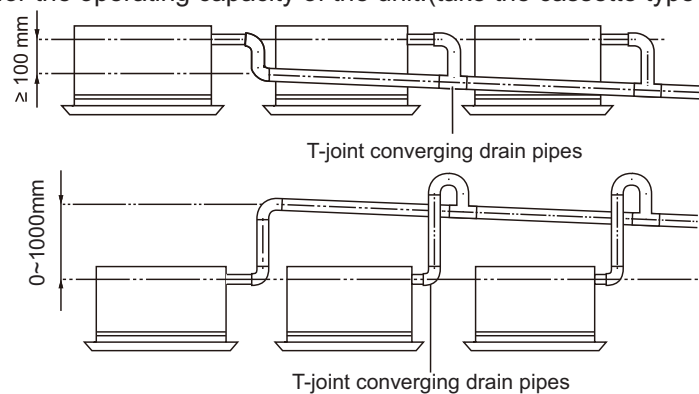

Figure 3-1-51
- (1). Insert the drain pipe to the drain outlet of the unit and then tighten the clamp securely with tape.
- (2). Connect the extension drain pipe to the drain pipe and then tighten the clamp with tape.
- (3). When unifying multiple drain pipes, install the pipes as Figure 3-1-51. Select converging drain pipes whose gauge is suitable for the operating capacity of the unit. (take the cassette type unit for example)